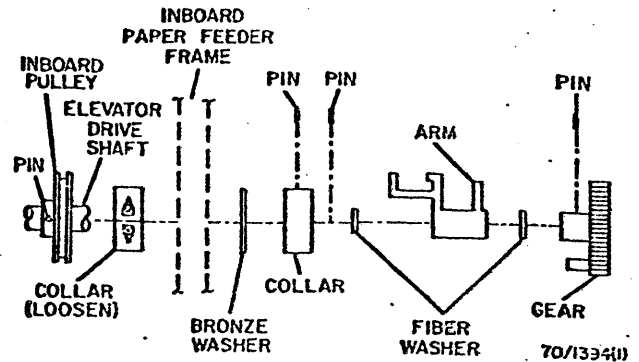

Fig. 3-30. Elevator Drive Shaft
- Remove the components shown in Fig. 3-30.